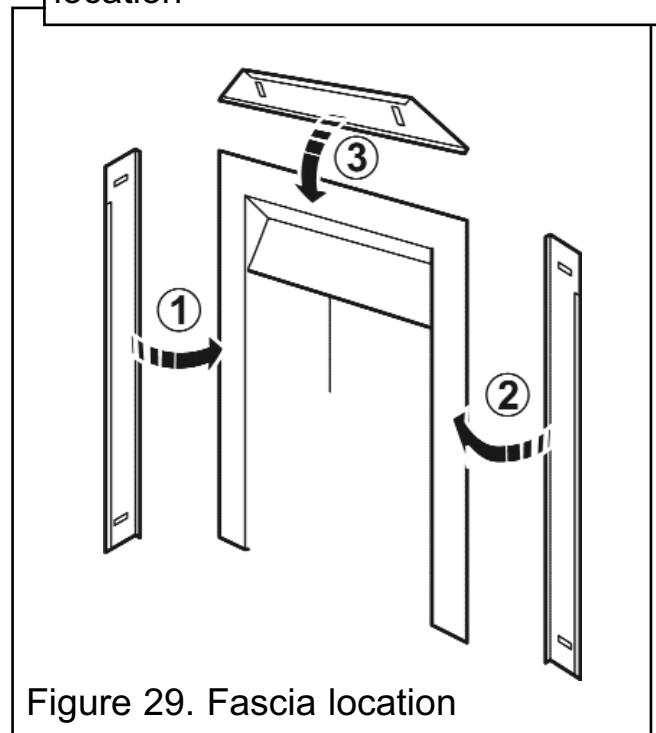

Figure 29. Fascia location
- 3.** Locate the side fascia trims as in figure 29.
- 4.** Locate the top fascia trim as in figure 29.